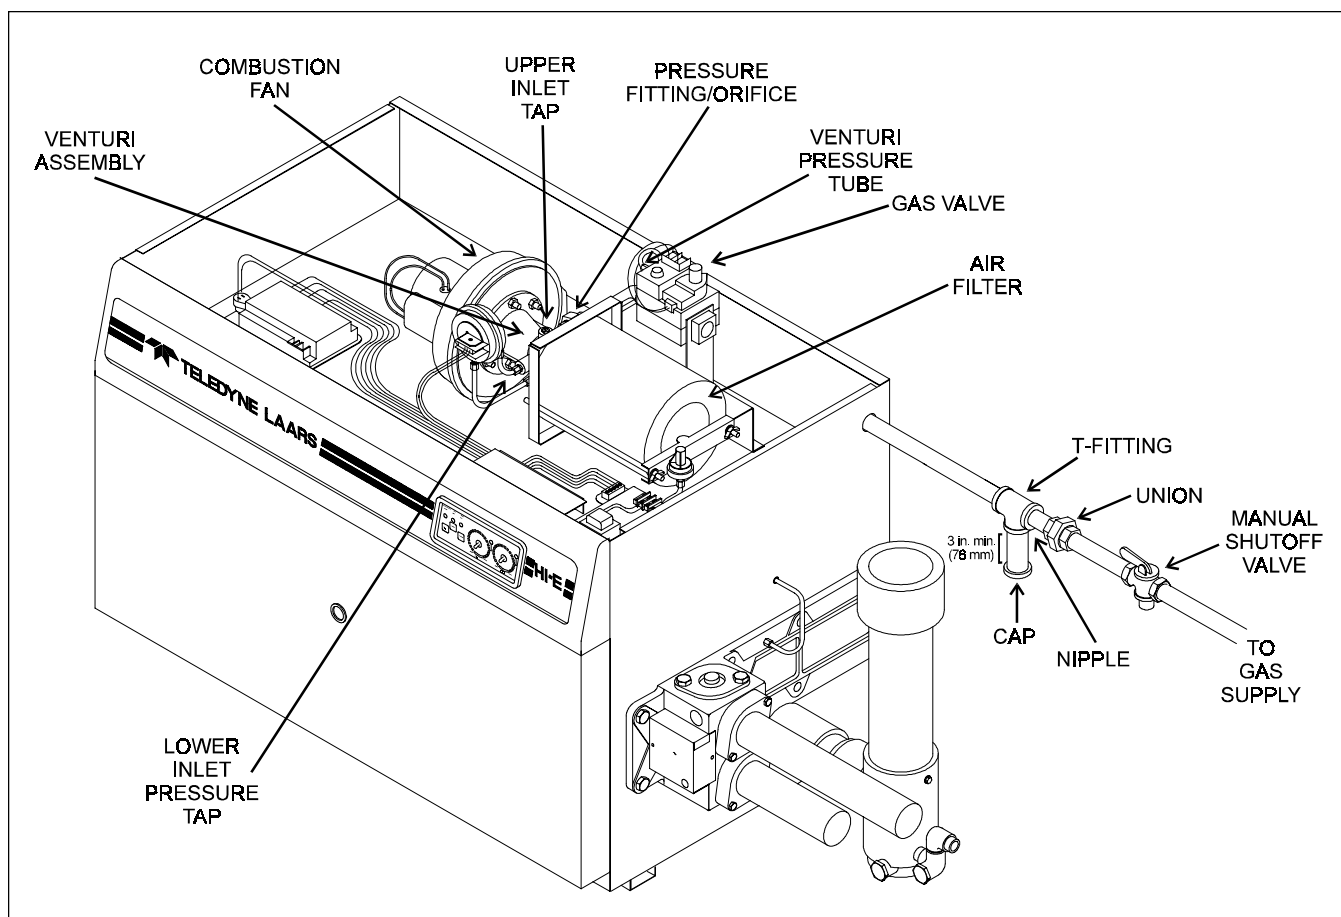

Figure 6. Checking the Gas Pressure
4. Attach a manometer or a 1/2 inch (13 mm) negative pressure gauge between the outlet pressure tap on the gas valve and the venturi (lower) inlet pressure tap (see Fig. 6).
1. Attach one end of a manometer hose to the fitting on the gas valve (see Fig. 6).
1. Disconnect the venturi pressure tube (see Fig. 6).
1. Remove upper inlet pressure tap from the top of the venturi (see Fig. 6).